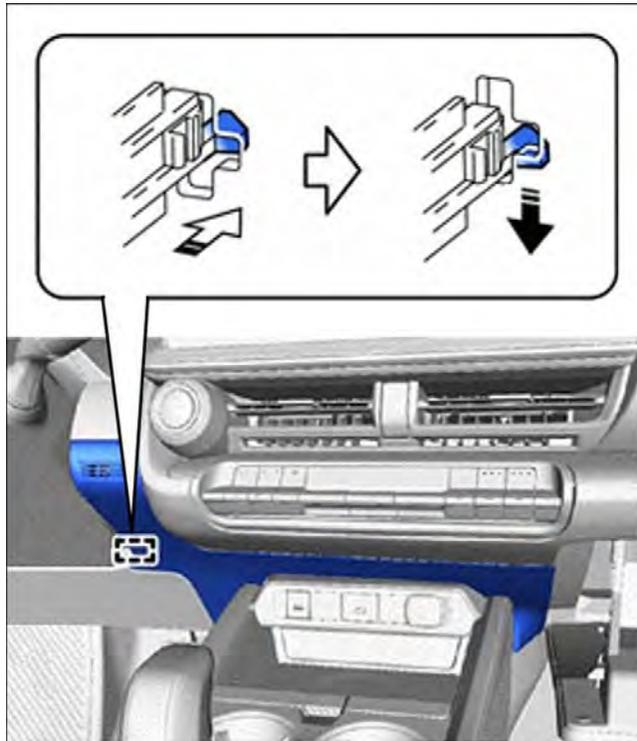

Figure 62
- (a) With knee airbag, engage the clip and install the lower center instrument panel finish panel, as shown in Figure 62.